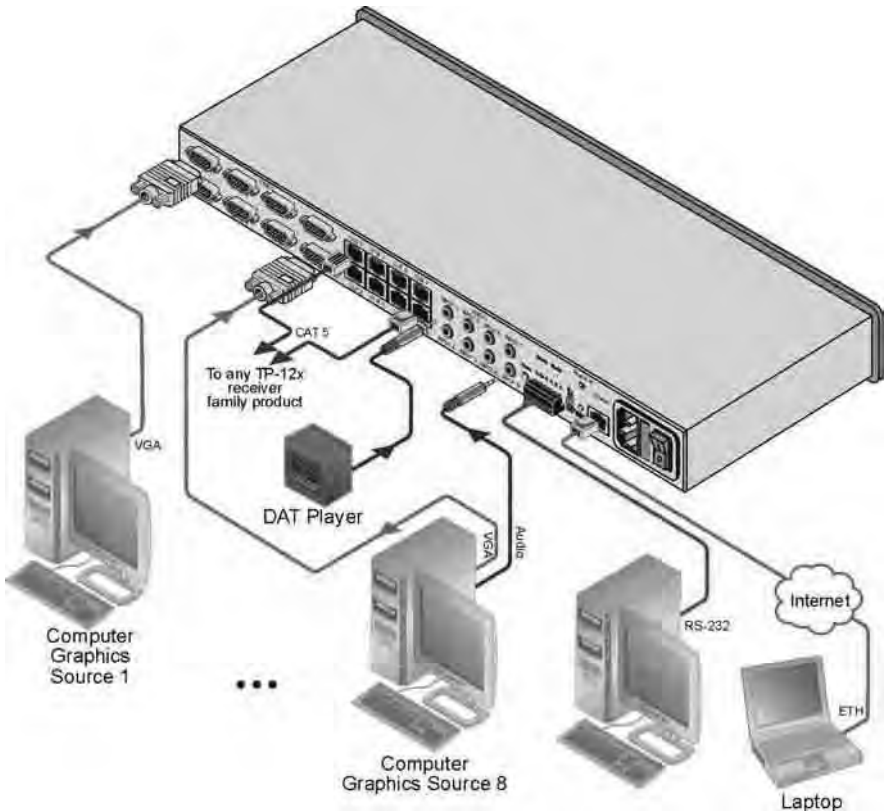

Figure 3: Connecting the VP-8x8TP 8x8 UXGA/Audio Matrix Switcher
To connect¹ the VP-8x8TP, as illustrated in the example² in Figure 3:
5. Connect the power cord³ (not shown in Figure 3).